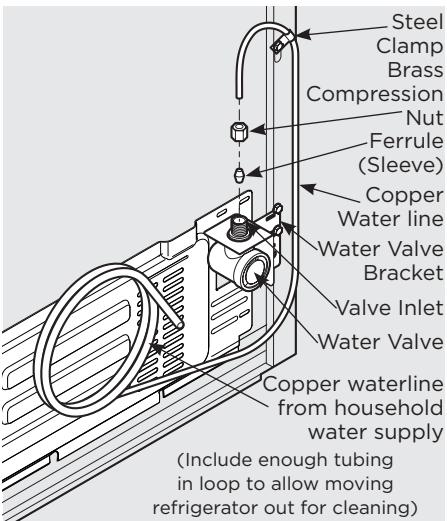

Figure 1
4. If you use copper tubing - Slide brass compression nut, then ferrule (sleeve) onto water supply line. Push water supply line into water valve inlet as far as it will go ($\frac{1}{4}$ inch/6.4 mm). Slide ferrule (sleeve) into valve inlet and finger tighten compression nut onto valve. Tighten another half turn with a wrench; DO NOT over tighten. See Figure 1.